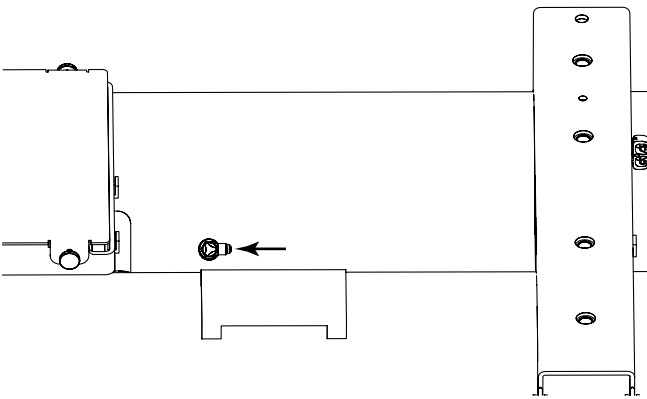

Figure 35 – Tank Bleeder Valve
Located at the bottom of the tank, see Figure 35.
2. Install the new bleeder valve assembly into the tank. Torque to 20 +/- 4.0 Nm minimum, plus orientation, reverse torque not permissible (see Figure 35).